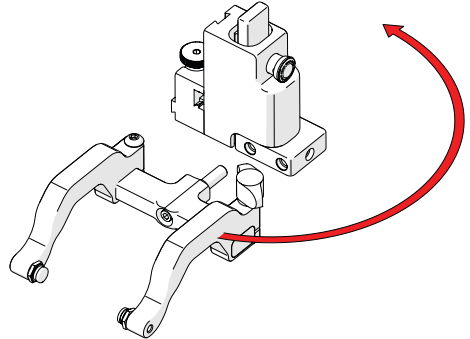

Fig. 35 - Orient to opposite side
2. Position the yoke and arms to the opposite side of the probe holder (*Fig. 35*).